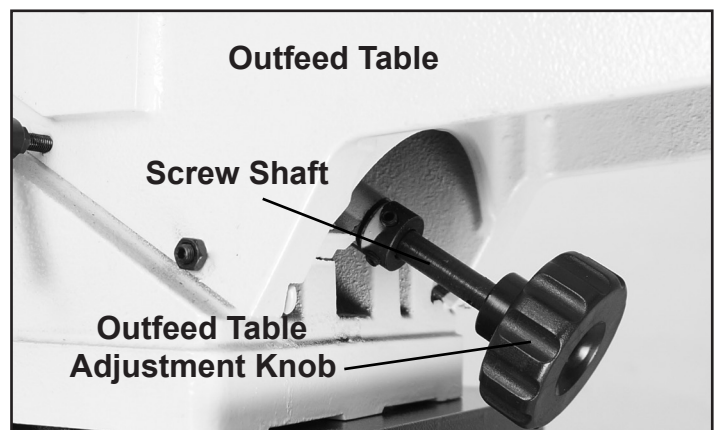

FIG. 16A
2. Insert the Outfeed Table Adjustment Knob onto the square receiver of the Table Adjustment Screw Shaft located under the Outfeed Table. Secure using the Allen Cap Screw M6 x 16mm and 6mm Flat Washer. FIG. 16A.